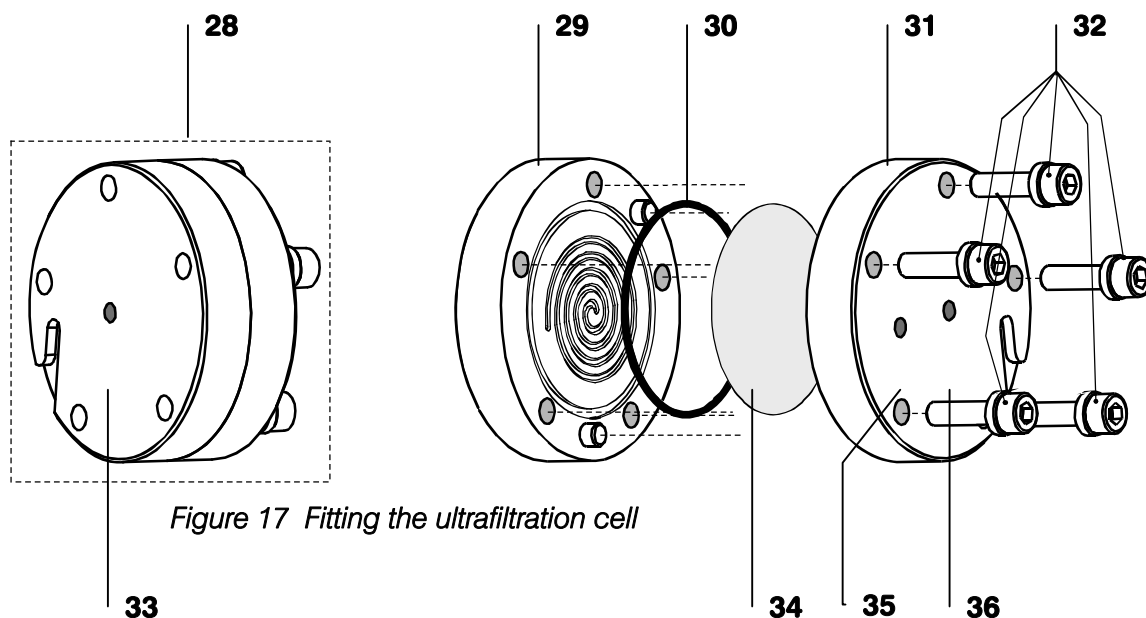

Figure 17 Fitting the ultrafiltration cell
- After screwing the ultrafiltration cell together, fit it, as shown in *Figure 17*, in the holder **10** so that the heads of the screws **32** are located in the holes provided in the holder.